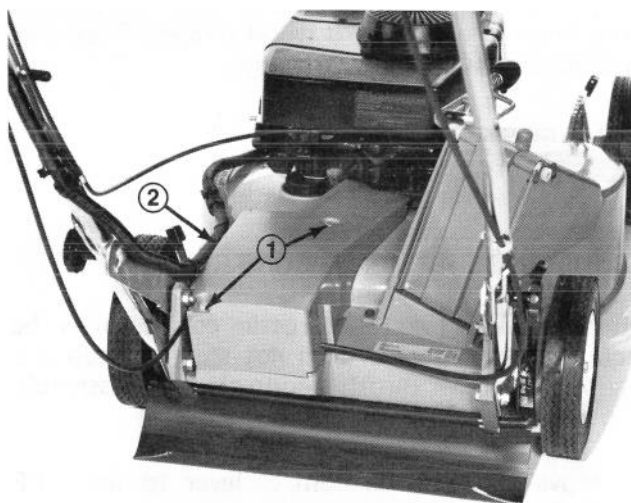

Figure 42
3. Remove two capscrews securing transmission cover and remove cover (Fig. 42).